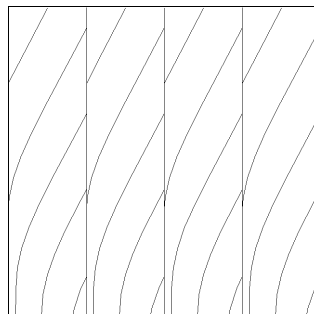
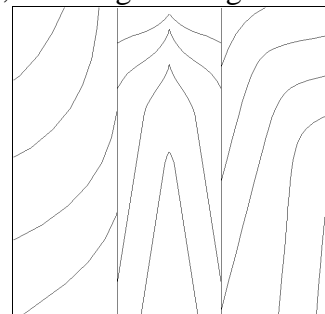

Fig. 10 Slip match
Fig. 11 Random match
**Slip matching** fans the leaves of a log as one might fan a deck of cards (Fig. 10). This provides a strong continuity of grain and color match, but results in a very directional pattern. This match is best used with rift and quarter sawn veneers where the grain is controlled during the cutting process. **Random matching** means just that: the veneer leaves are placed randomly, purposefully placing the veneers out of order (Fig. 11). This is sometimes done for aesthetic effect, but most often is simply an economical means of mixing leaves from multiple source logs.